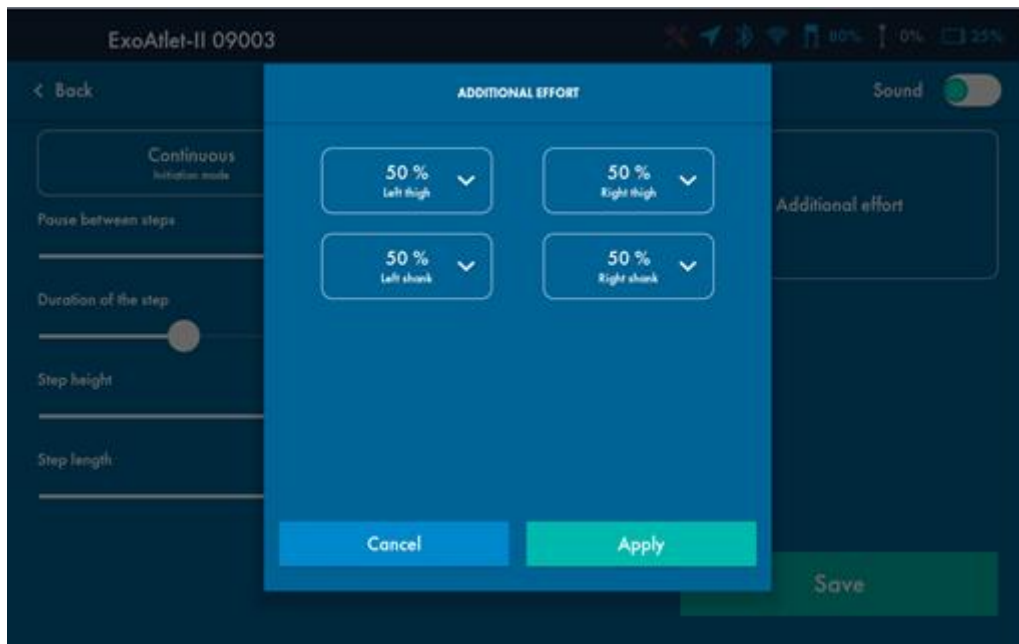

Figure 66
**By effort mode:** When you first choose this mode in “Walking” settings “Effort” screen will appear (see Figure 66). You should choose the degree of effort on every limb that patient should perform in order to initiate a step from 0% (no efforts from the patients, operation is similar to continuous mode) to 100% (it is necessary to apply very serious effort in order to initiate movement).